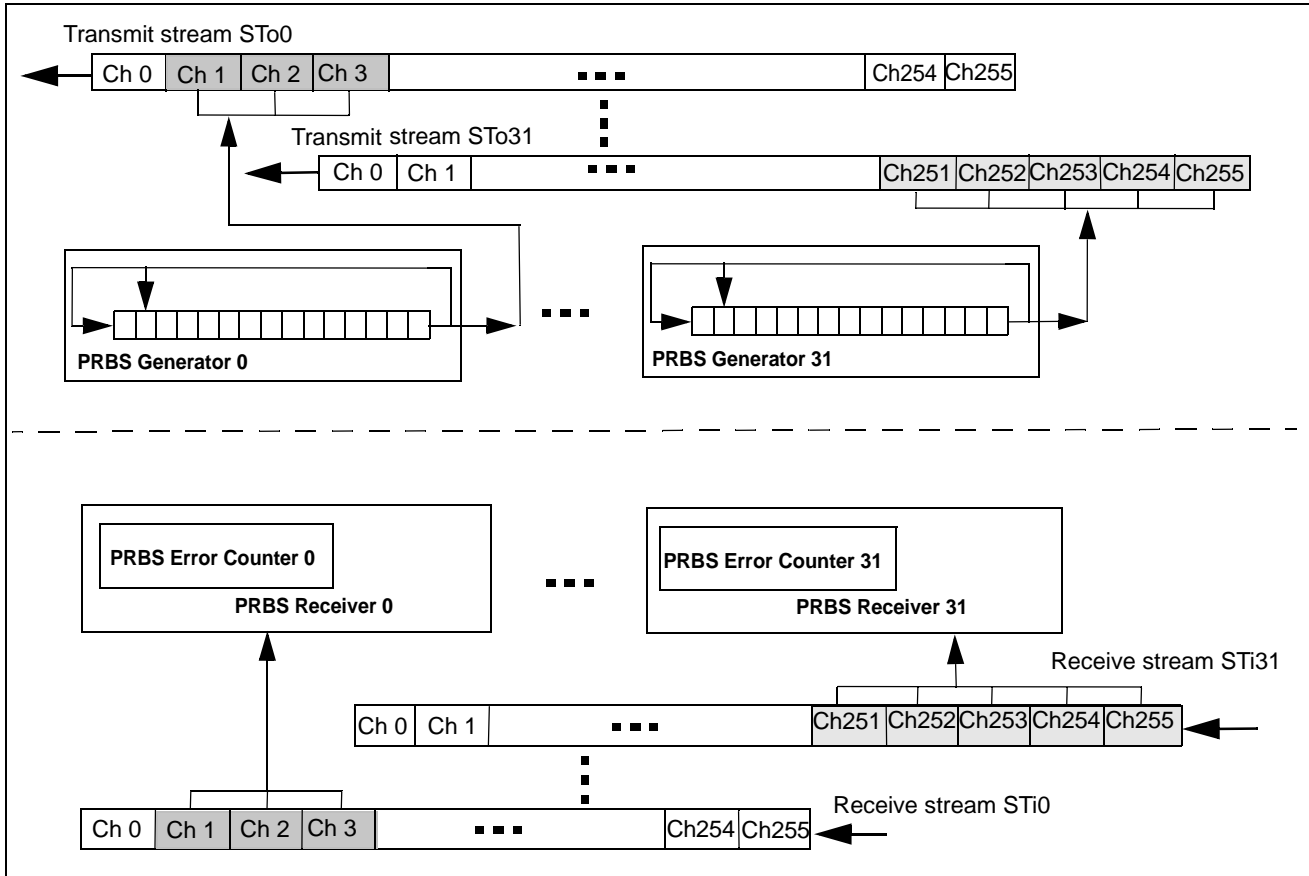

Figure 3 - ZL50021 BERT Implementation
4. Program the desired channels in the connection memory to send the BERT. For the BERT to run, the CMM(bit 0) of the connection memory low must be 1. Also, bits PCC1-0(bits 2-1) must be 10 to enable the per stream BER transmitters. For the backplane example of figure 3, the connection memory addresses 0x2001, 0x2003 and 0x2005 should be programmed with 0x0005.
6. Program a start channel in the receiver from which the BER receive test is starting to be monitored. This is done by writing to BER Receiver Start Register N - BRSR(n)(0x0300-0x031F). For the stream 0 example from figure 3, 0x0001 should be written to BRSR0(0x0300) There is one register for each receive stream.